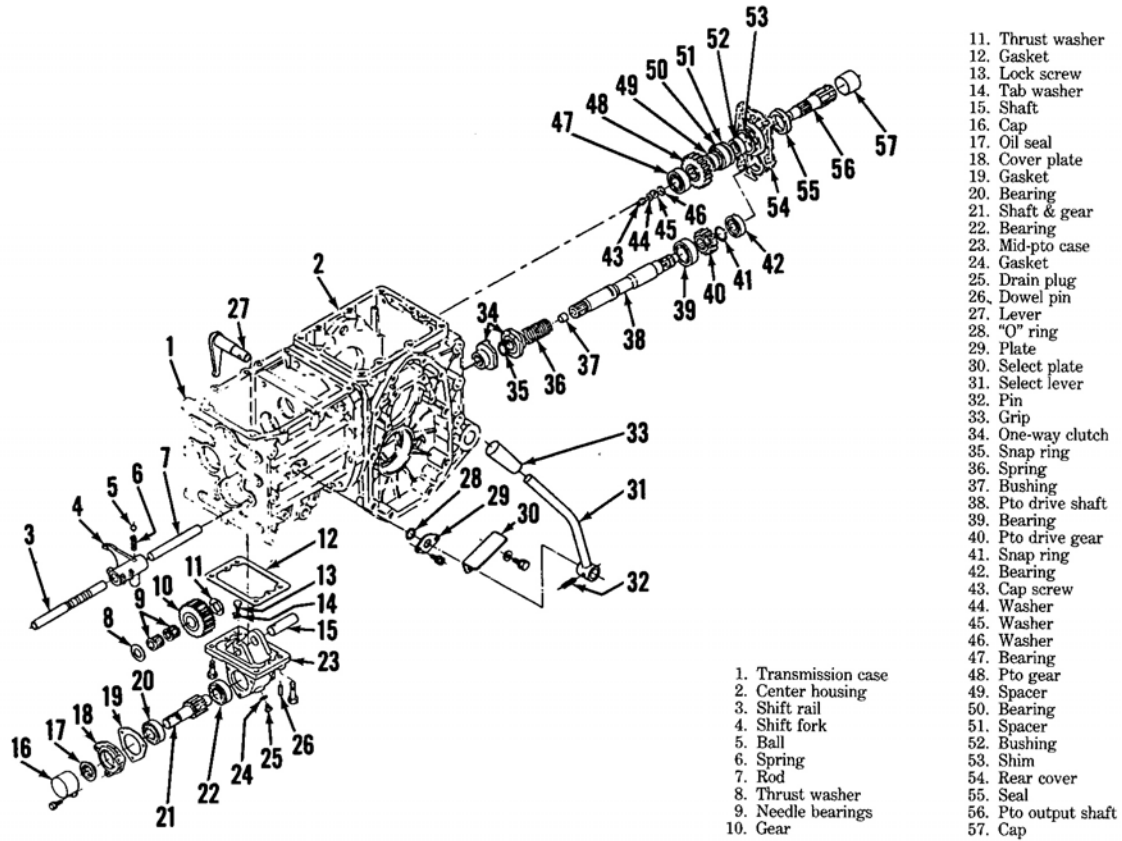

Fig. 88— Exploded view of pto components used on Models B6100HST-D, B6100HST-E, B7100HST-D and B7100HST-E. Refer to text.
**84. R&R AND OVERHAUL.** Drain transmission/hydraulic system fluid into a suitable container. Raise hood and disconnect battery cable from negative battery post. To remove pto components located in center housing, first remove the six cap screws securing rear cover (54—Fig. 88) to center housing (2). Using a suitable mallet, lightly tap rear cover (54) to separate components, then withdraw rear cover with components (43 through 57). Using a suitable puller, extract bearing (42) from shaft end (38). Remove snap ring (41), then withdraw gear (40). To service one-way clutch (34) or extract pto drive shaft (38), first remove hydraulic lift cover as outlined in paragraph 99. Remove all components as needed that will obstruct in center housing and transmission case split. Using suitable holding fixtures, support center housing and transmission case, then split units apart. Remove snap ring (35) and withdraw one-way clutch half (34) and spring (36). Lightly tap front end of shaft (38) to break bearing (39)
**85. R&R AND OVERHAUL.** Service to pto components located in range transmission is outlined in paragraphs 69 and 70. Pto select linkage components are serviced with reference to Fig. 88 after removal of needed range transmission components to allow access to shift components.
**86. R&R AND OVERHAUL.** Drain transmission/hydraulic system fluid into a suitable container. Raise hood and disconnect battery cable from negative battery post. Remove the four cap screws securing case (23—Fig. 88) to bottom side of transmission case (1),
Fig. 90 — Exploded view of pto components used on Models B6100D, B6100E and B7100D. For identification of parts, refer to legend in Fig. 88 except for the following.
Disassembly of unit is evident after referral to Fig. 88. Inspect components and renew any which are damaged or excessively worn.